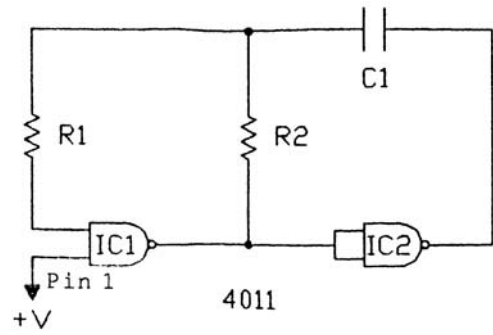

Figure 3
The SM-200K uses two oscillators. The first oscillator produces a frequency of about 2000 hertz (cycles per second) and the other produces a frequency of about 20 hertz. Figure 3 shows the basic oscillator circuit. The 4011 integrated circuit (IC) contains four two input NAND gates. Two of these NAND gates are needed to form an oscillator. Feedback for this oscillator is via capacitor C1 and resistors R1 and R2. These elements determine the frequency of oscillation. Both IC1 and IC2 act as inverters, that is when the input is low the output is high. As long as pin 1 of IC1 is high the circuit will oscillate. If pin 1 is brought low, the circuit will stop oscillating.